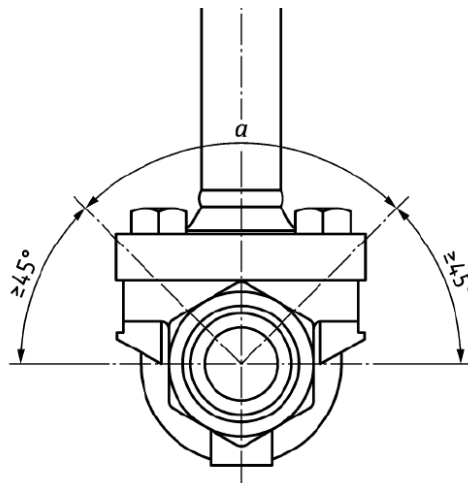

Figure 1 - Picture Extract from DIN EN ISO 28921-1:2017-05
4.2.3.7 Valves intended for fluid applications other than cold box applications shall be operable with the extended bonnet at an angle of 45° or more above horizontal (Figure 1).